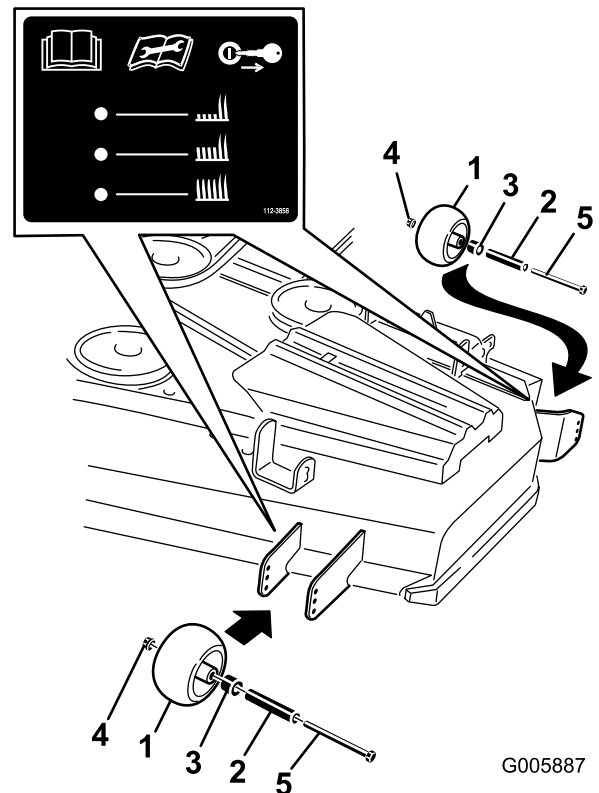
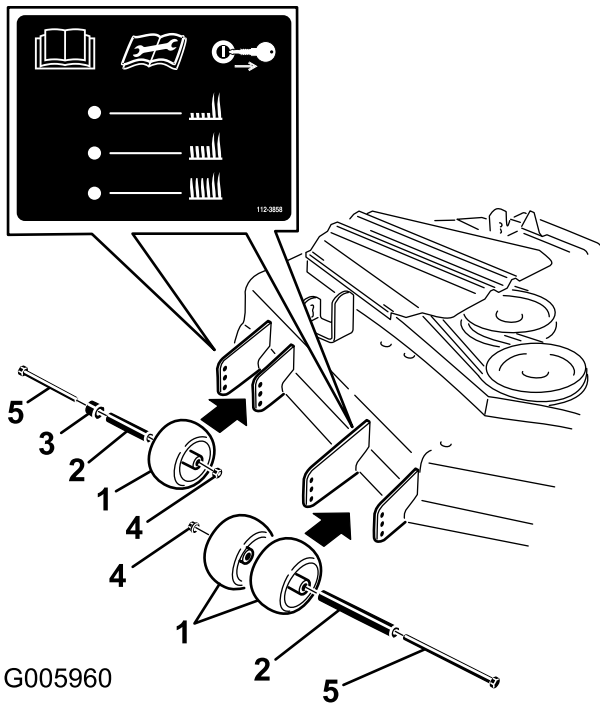

Figure 19
Figure 20
3. After adjusting the height-of-cut, adjust the rollers by removing the flange nut, bushing, spacer, and bolt (Figure 19 or Figure 20).
Note: The two middle rollers will not have a spacer (Figure 19 or Figure 20).
5. Install the flange nut bushing, spacer, and bolt. Torque to 40-45 ft-lb (54-61 N-m) (Figure 19 or Figure 20).